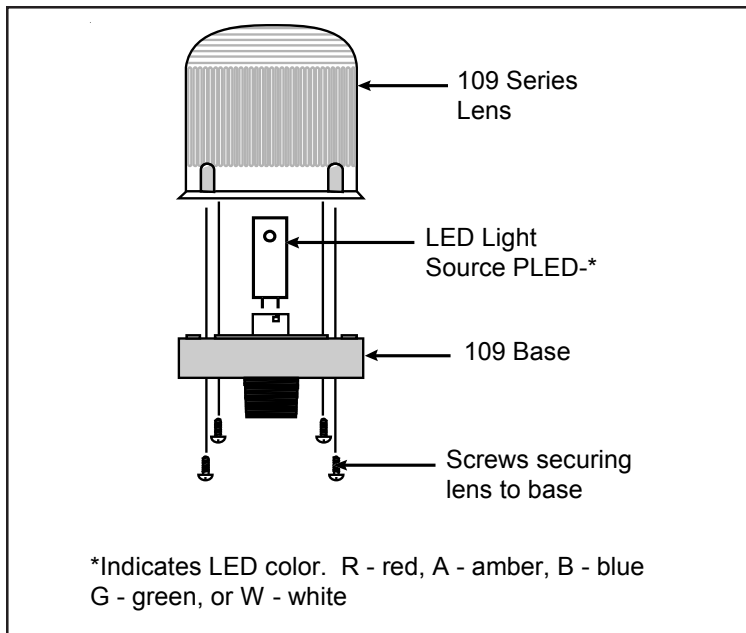

Figure 4. Replacing the Light Source
2. Remove (4) screws securing the lens to the base from bottom of base (Figure 4) and remove lens.